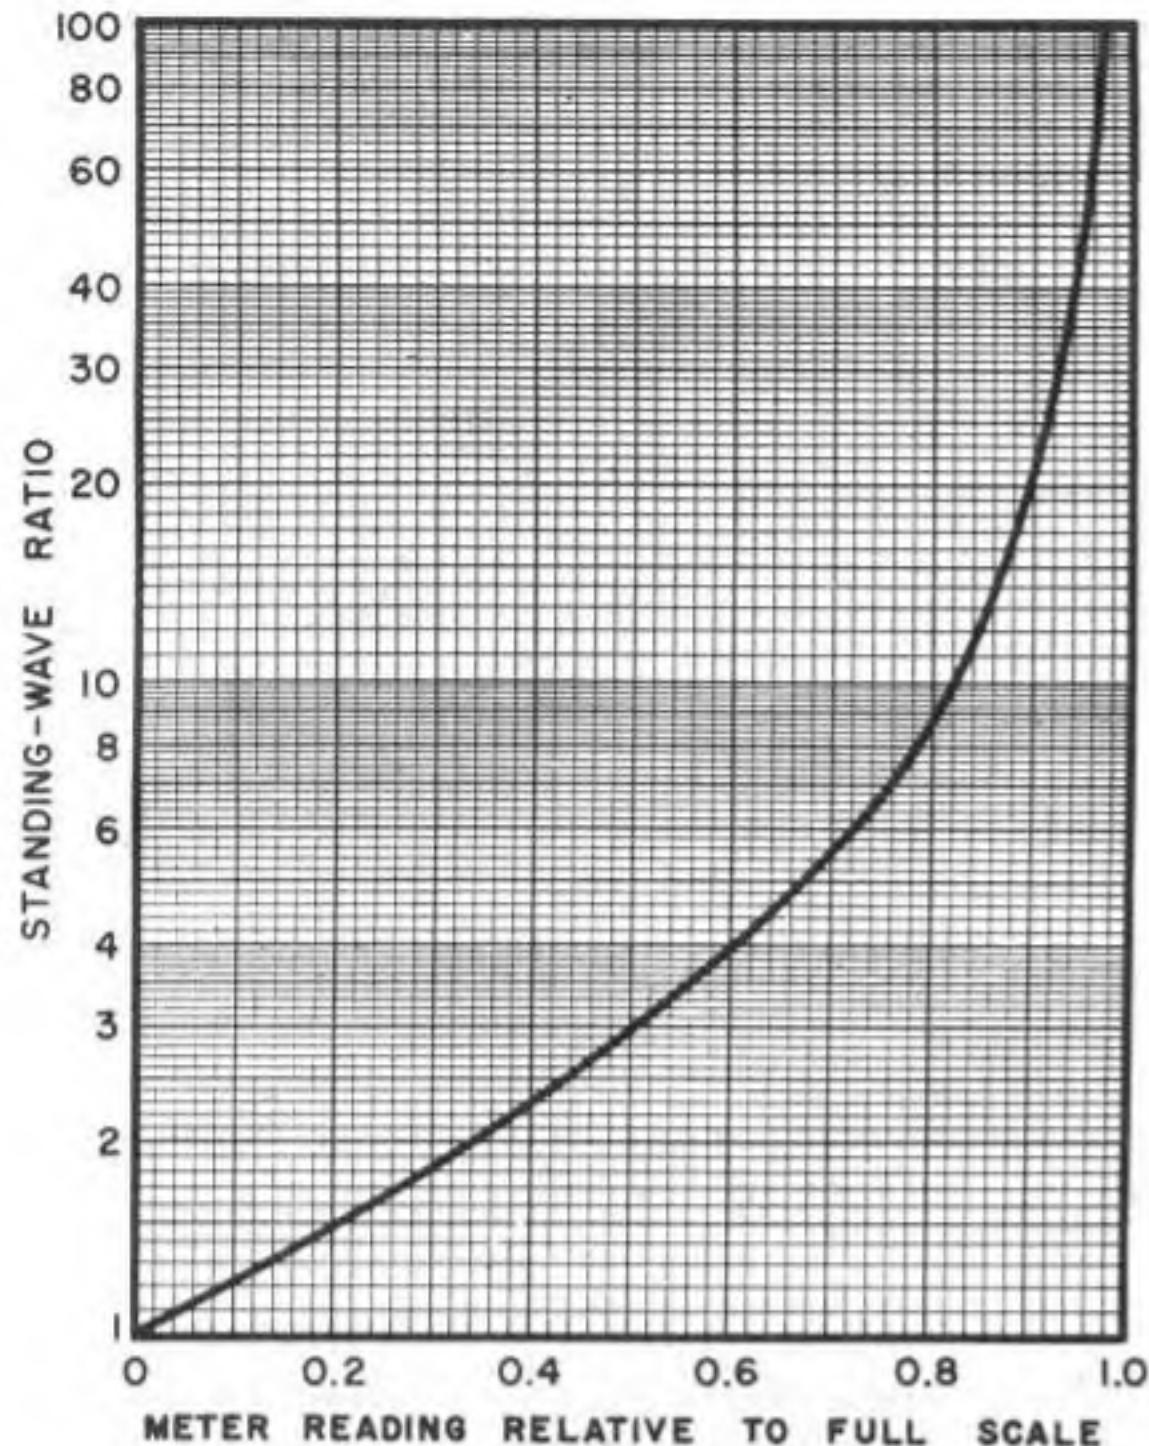

FIGURE 8. STANDING-WAVE RATIO CHART
11. Read the SWR from the chart in Figure 8. A meter reading of  $.4$  relative to full scale deflection is a 2.3 to 1 SWR.
12. Read the SWR from the chart shown in Figure 8.